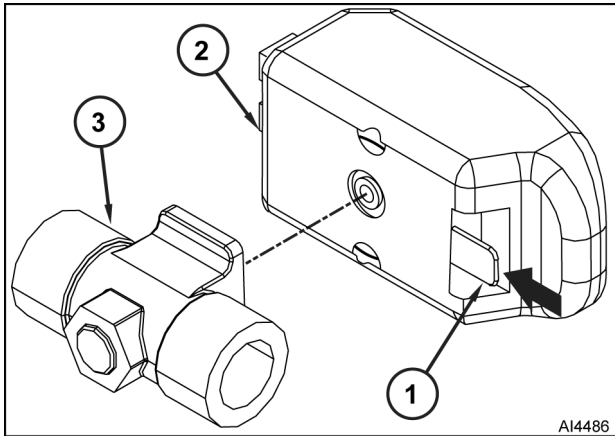

Fig. 67
- Press and hold spring catch (1, Fig. 67) then lift motorized control assembly (2, Fig. 67) off valve body (3, Fig. 67).